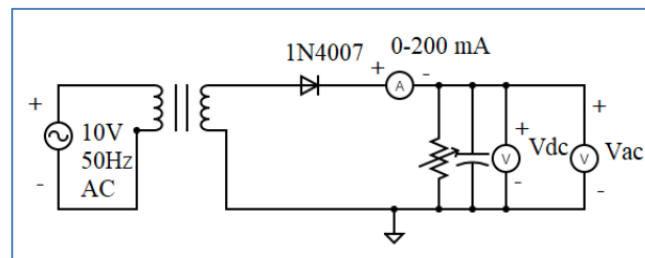

Fig 9. Half wave rectifier with filter
3.2 Verification of Half wave rectifier with filters using hardware shown in fig 9 and draw the waveforms.